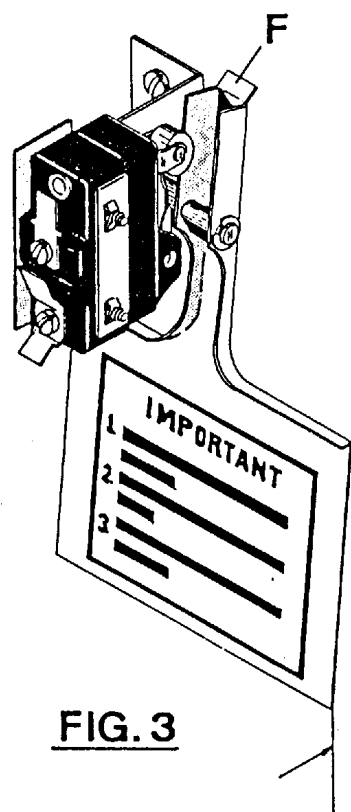

FIG. 3
1. Loosen the 4 cast iron bearing bolts (1, 2, 3 & 4) on rear of dryer, and 2 adjusting bolts #5, on gear reducer housing. (Fig. 3).
3. With the pins in position, tighten the two No. 5 bolts until flush against back of dryer. Retighten cast iron bearing mounting bolts in the numerical order indicated in Figure 3. Tighten lock nuts No. 6 to secure bolts No. 5 in position. Then remove pins.
4. Maximum opening of air switch must be no greater than 3/4" (20 mm) (FIGURE 3). Bend tab "F" in or out to maintain this dimension.